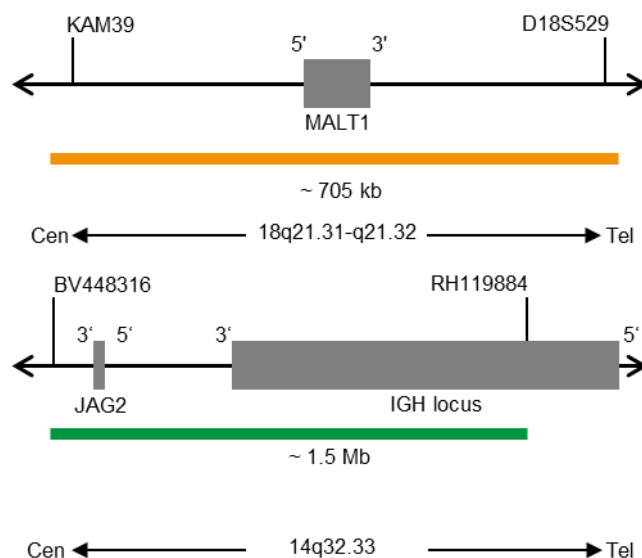

Fig. 1: Top: SPEC MALT1 probe map; Bottom: SPEC IGH probe map (not to scale)
- ZyOrange (excitation 547 nm/emission 572 nm) labeled polynucleotides (~6 ng/μl), which target sequences mapping in 18q21.31-q21.32* (chr18:56,021,766-56,724,408) harboring the MALT1 gene region (see Fig. 1).
- ZyGreen (excitation 503 nm/emission 528 nm) labeled polynucleotides (~12 ng/μl), which target sequences mapping in 14q32.33* (chr14:105,462,169-106,995,000) harboring the IGH locus (see Fig. 1).